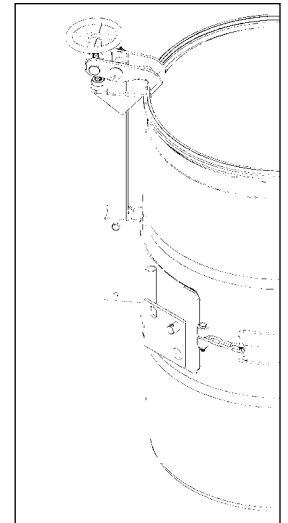

Figure 2.2
- The **Top Rim Clamp** (Part # 4560-P) grips the upper rim of your drum to prevent it from slipping through the drum holder (see figure 2.2). To handle a 55-gallon plastic drum with top rim, you **must** install either the Bracket Assembly or the Top Rim Clamp. You can use the Top Rim Clamp with a 55-gallon plastic, steel or fiber drum with suitable top rim